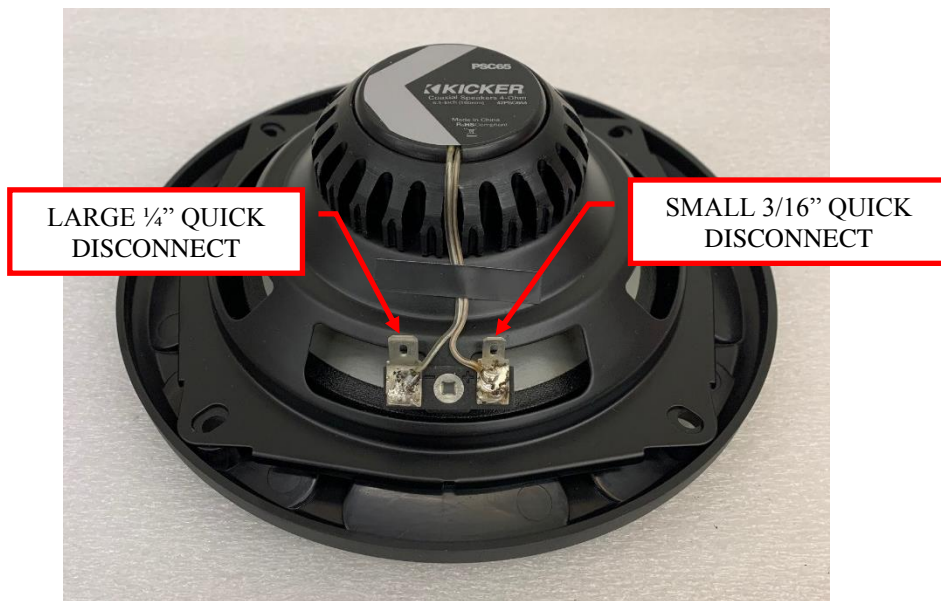

**Figure 4: Install the hardware in the top.**
5. Bolt the top to the cage using the supplied 5/16" hardware. Make sure and use the nylock nut and washer inside the top and use a bolt and washer outside. Torque to 15 to 20 ft.\*lbs. See Figure 4.